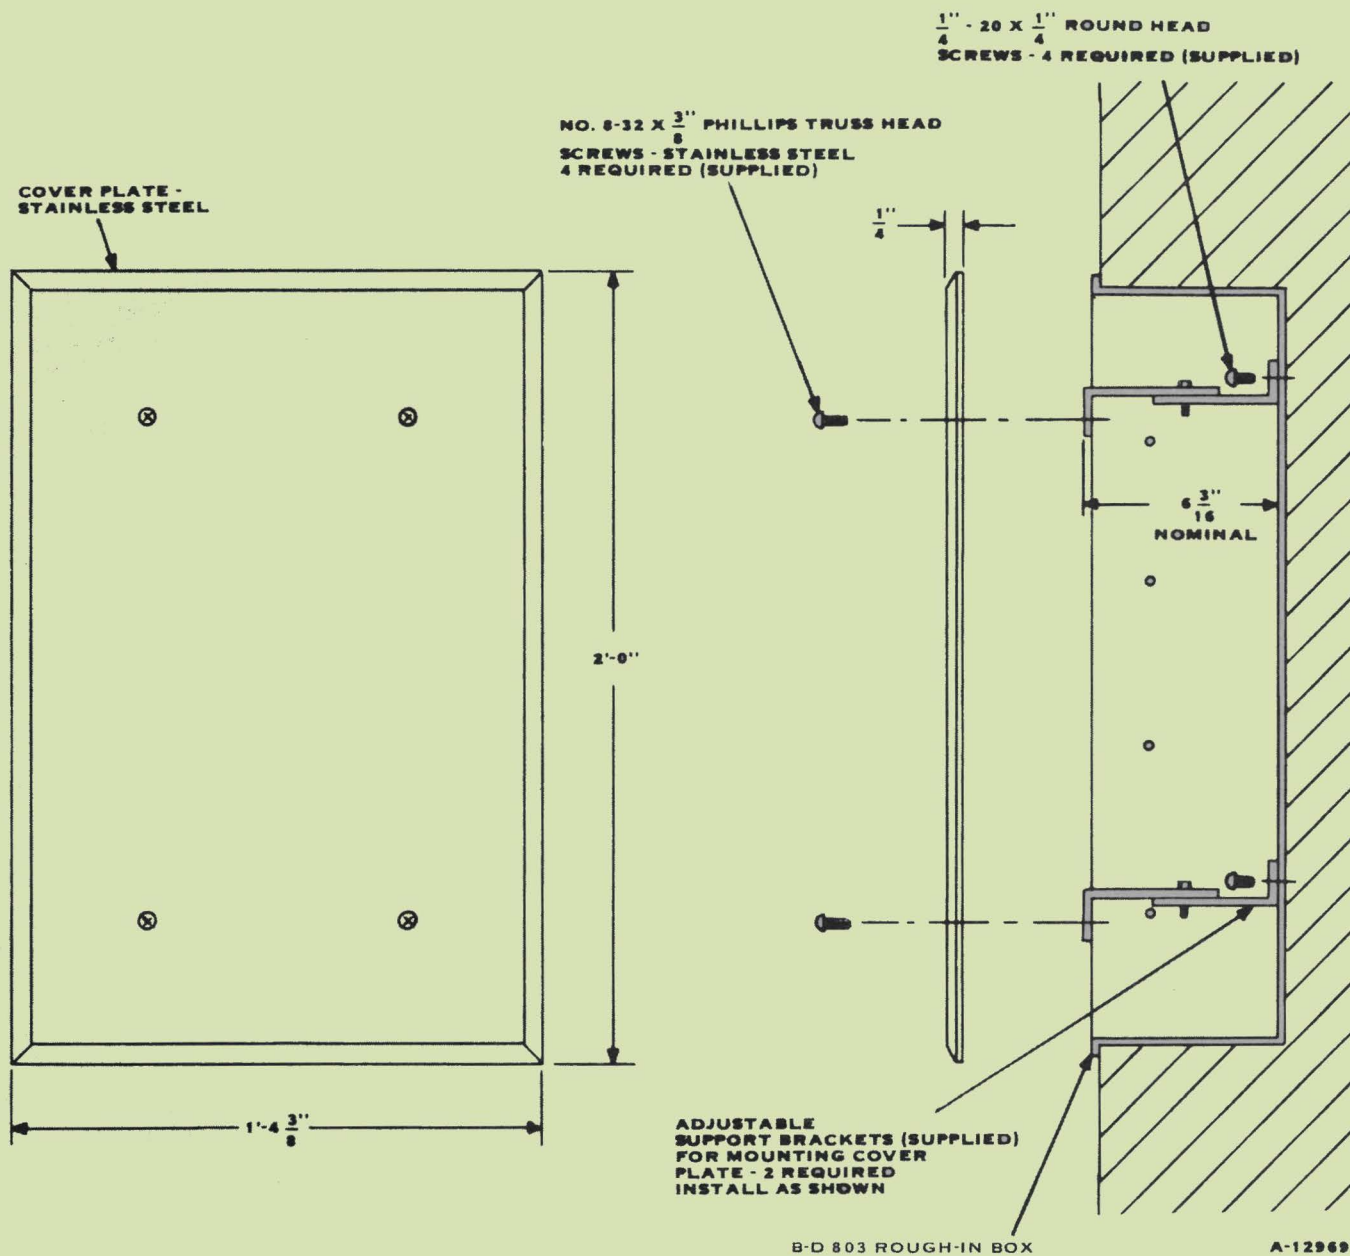

Figure 7. Installation of Cover Plate.
- (b) Install the cover plate support brackets as shown in Figure 7 (furnished with this addendum).
- (c) Install the cover plate as shown in Figure 7.